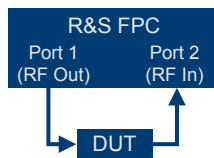

Figure 19-1: Setup of a transmission S21 measurement
1. Connect the DUT to the R&S FPC as shown in Figure 19-1.